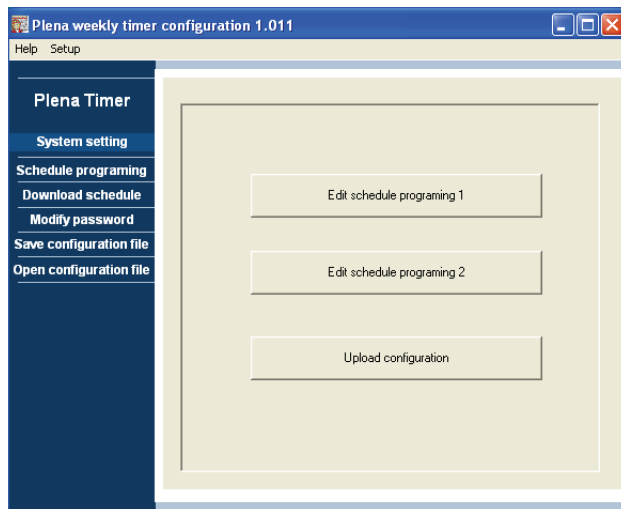

figure 8.14: Programming and upload buttons
- 1 From the main menu, click the Schedule programming button. The following window will appear (see figure 8.14).